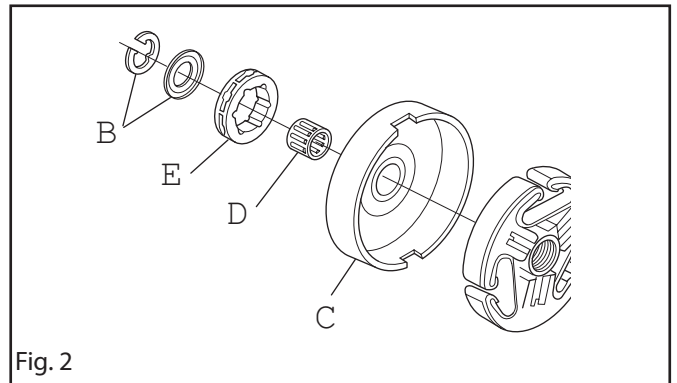

Fig. 2
4. Remove the locking ring (B) with washer and lift up the clutch drum (C) with needle bearing (D) and chain drive sprocket (E). See figure 2.